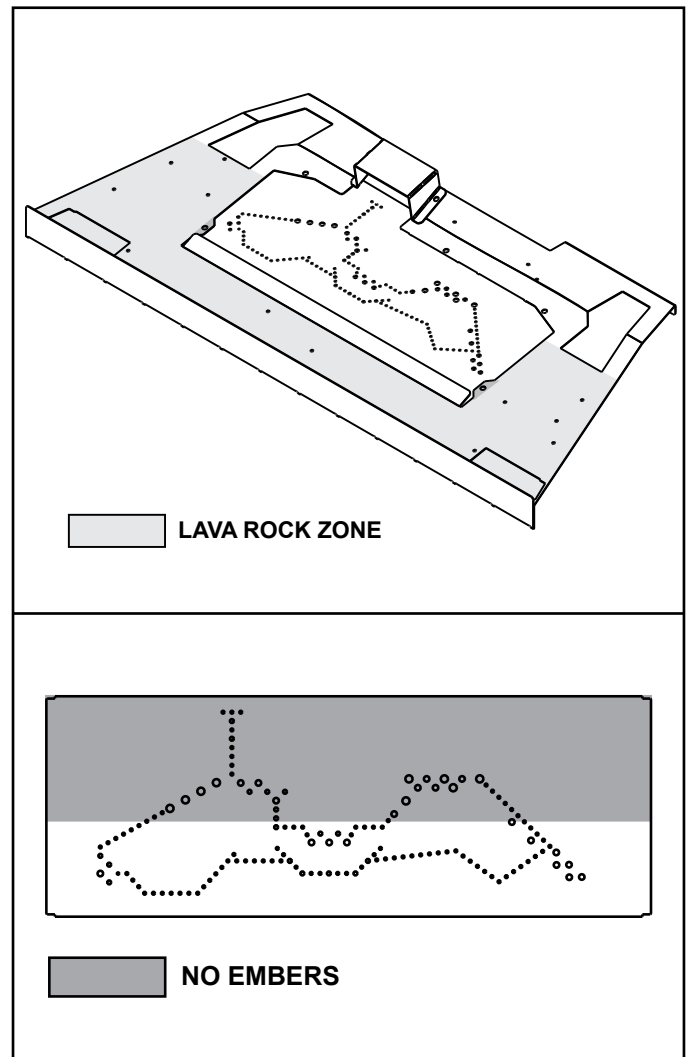

Figure 9.3 Placement of Lava Rock and Embers
- Place lava rock in front of and to the sides of the burner. See Figure 9.3.
- Embers CANNOT be placed directly over burner ports that are indicated in Figure 9.3 or in pilot area as indicated in Figure 9.3.
- Embers may be placed on the ports in areas indicated in Figure 9.3. These embers must be placed loosely over the port holes, not pressed down on or into the holes. Create a single layer, no more than 1/4 inch thick.